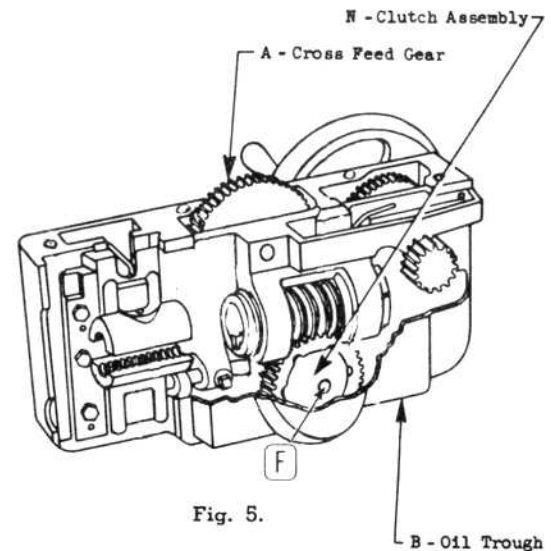

Fig. 5.
9. Remove oil trough from back of apron. See fig. 5
17. When assembling apply pressure on back of draw bar to hold discs in place until swivel nut and handle are fastened. See "F", fig. 5.